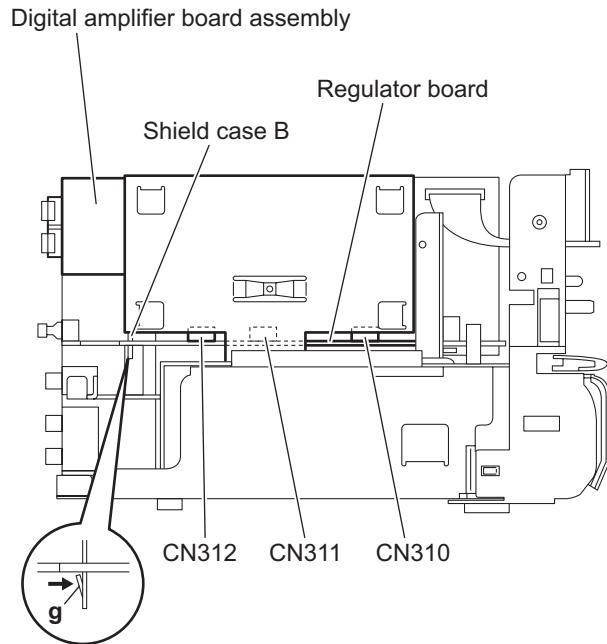

Fig.16
- (2) From the left side of the main body, disconnect the connectors (CN310, CN311, CN312) on the digital amplifier board assembly from the regulator board. (See Fig.16.)
- (3) Release the joint **g** of the shield case B in the direction of the arrow and take out the digital amplifier board assembly from the main body. (See Fig.16.)